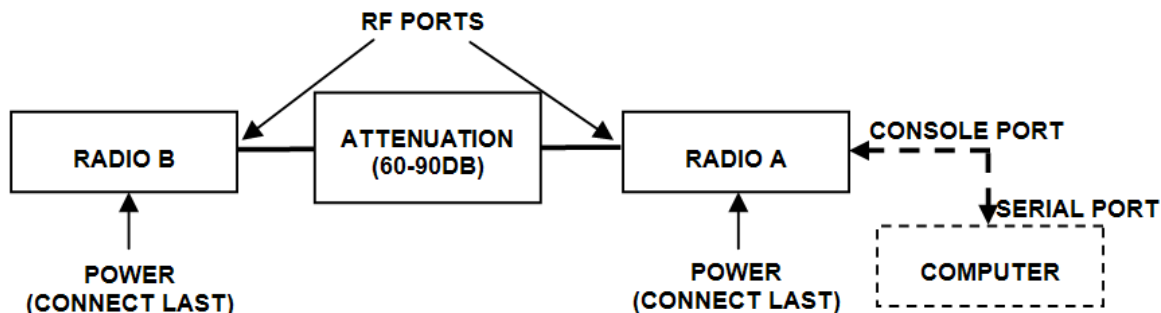

Figure 66 Basic back-to-back bench test configuration
- 1 Connect attenuation and (known-good) RF cable(s) between radio pair, shown in Figure 66.
Connect the system as shown in Figure 66, using the combination of fixed and variable attenuation between the radio's RF ports. Connect the volt meter to either radio's RSL test point and associated reference ground connection.